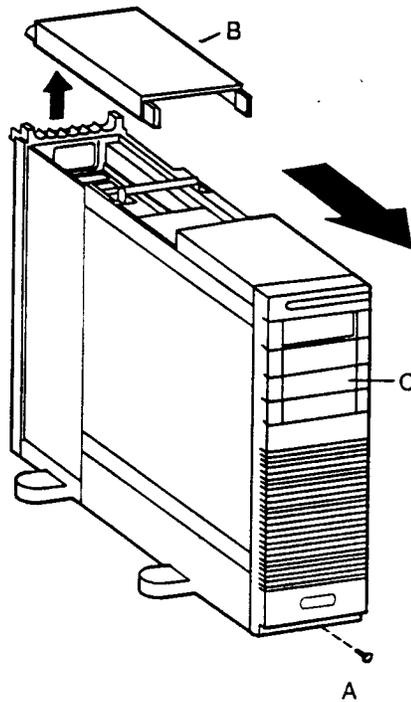

Figure A-6. 6386E/33 WGS Outside Cover Removal
3. Remove the top cover (B) of the system by lifting from the rear.
4. Loosen the cover retaining screw (A) as shown in Figure A-6.